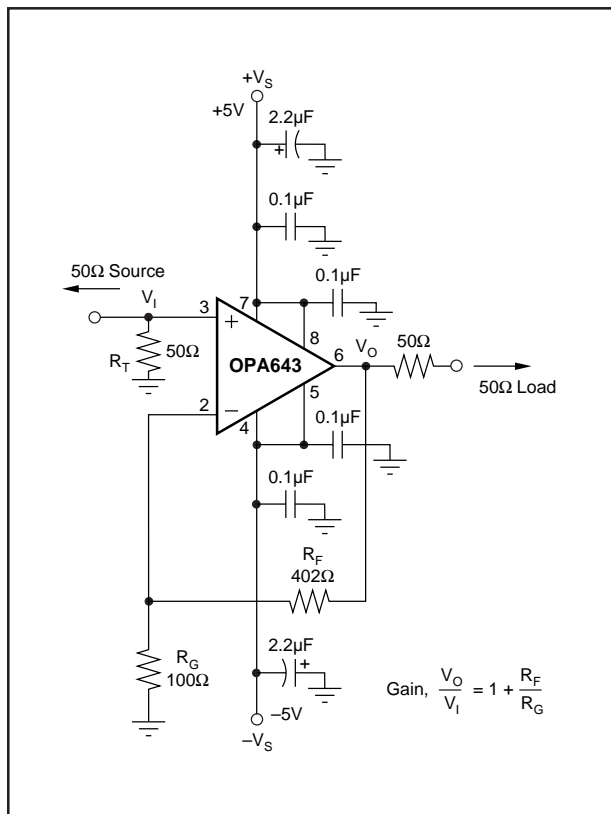

FIGURE 1. Gain of +5, High Frequency Application and Characterization Circuit (P or U Package).
The OPA643's combination of speed and dynamic range is easily achieved in a wide variety of application circuits, providing that simple guidelines common to all high speed amplifiers are observed. For example, good power supply decoupling, as shown in Figure 1, is essential to achieve the lowest possible harmonic distortion and smooth frequency response. Careful PC board layout and component selection will maximize the performance of the OPA643 in all applications, as discussed in the remaining sections of this data sheet.
Figure 1 shows the gain of +5 configuration used as the basis for most of the Typical Performance Curves. Most of the curves were characterized using signal sources with 50Ω driving impedance, and with measurement equipment presenting 50Ω load impedance. In Figure 1, the 50Ω shunt resistor at the  $V_I$  terminal matches the source impedance of the test generator, while the 50Ω series resistor at the  $V_O$  terminal provides a matching resistor for the measurement equipment load. Generally, data sheet specifications refer to the voltage swing at the output pin ( $V_O$  in Figure 1). The total 100Ω load from the series and shunt matching resistors, combined with the 502Ω total feedback network load, presents the OPA643 with an effective output load of approximately 83Ω.
To deliver the lowest possible distortion using the 8-pin SO-8 or DIP package, additional 0.1μF power supply decoupling capacitors on pins 5 and 8 are required. These are shown in Figure 1. Although pins 5 and 8 are internally connected to pins 4 and 7 respectively (the standard supply pins for 8-pin op amps), the additional capacitors help to decouple the package lead inductances and decrease the second-harmonic distortion for a 5MHz fundamental by approximately 4dB. The much shorter bond wires and supply leads of the SOT23-5 package give the best distortion performance while requiring only two power supply connections.
Since the OPA643 is a voltage feedback op amp, a wide range of resistor values may be used for the feedback and gain setting resistors ( $R_F$  and  $R_G$  in Figure 1). The primary limits to these values are set by dynamic range (noise and distortion) and parasitic capacitive considerations. Usually, the feedback resistor value should be between 200Ω and 1kΩ. Below 200Ω, the feedback network will present additional output loading which can degrade the harmonic distortion performance of the OPA643. Above 1kΩ, the typical parasitic capacitance (approximately 0.2pF) across the feedback resistor may cause unintentional band-limiting in the amplifier response.
A good rule of thumb is to target the parallel combination of  $R_F$  and  $R_G$  (Figure 1) to be less than about 200Ω. The combined impedance  $R_F \parallel R_G$  interacts with the inverting input capacitance, placing an additional pole in the feedback network and thus a zero in the forward response. Assuming a 3pF total parasitic on the inverting node, holding  $R_F \parallel R_G < 200\Omega$  will keep this pole above 250MHz. By itself, this constraint implies that the feedback resistor  $R_F$  can increase to several kΩ at high gains. This is acceptable as long as the pole formed by  $R_F$  and any parasitic capacitance appearing in parallel with it is kept out of the frequency range of interest. The exception to this is in wideband transimpedance applications as described earlier. There, a feedback pole is used to compensate for the zero formed by the input capacitance and the feedback resistor.
Generally, until the fundamental signal reaches very high frequencies or powers, the second harmonic will dominate the distortion with negligible third harmonic component. Focusing then on the second harmonic, increasing the load impedance improves distortion directly. Remember that the total load includes the feedback network—in the non-inverting configuration this is sum of  $R_F + R_G$ , while in the inverting configuration it is only  $R_F$  (Figure 1). Larger output voltage swings lead directly to increased harmonic distortion. A 6dB increase in output voltage swing will generally increase the second harmonic by 12dB and the third harmonic by 18dB. Higher signal gain settings will also increase the second harmonic distortion. A 6dB increase in voltage gain will raise the second and third harmonics by
Evaluating these two equations for the OPA643 component values shown in Figure 1 will give a total output spot noise voltage of 13.3nV/√Hz and a total equivalent input spot noise voltage of 2.7nV/√Hz.
Narrowband communications systems are more commonly concerned with the Noise Figure (NF) for the amplifier. The total input referred voltage noise expression (Equation 2 above), may be used to calculate the noise figure. Equation 3 shows the noise figure expression using the  $E_N$  of Equation 2 for the non-inverting configuration where the input termination resistor  $R_T$  has been set to match the 50Ω source impedance (as shown in Figure 1).
Evaluating Equation 3 for the circuit of Figure 1 gives a Noise Figure = 15.9dB. Input transformer coupling can be used to reduce this noise figure. A broadband pulse transformer can provide both a noiseless voltage gain and a more optimum source impedance to minimize the noise figure. Figure 9 shows an example built from the circuit of Figure 1, in which the transformer turns ratio has been set to the closest integer for minimum noise figure. This optimum turns ratio is calculated by:
The OPA643 provides excellent DC signal accuracy due to the combination of high open-loop gain, high common-mode rejection, high power supply rejection, low input offset voltage and low bias current offset errors. The high grade (B) version of any package type provides less than 1.5mV input offset voltage. To take full advantage of this low input offset voltage, careful attention to input bias current cancellation is also required. The high speed input stage for the OPA643 has a relatively high input bias current (19μA typical into each input pin) but with a very close match between the two input currents—typically 100nA input offset current. The total output offset voltage may be considerably reduced by matching the source resistances which appear at the two inputs. For example, one way to include bias current cancellation in the circuit of Figure 1 would be to insert a 55Ω series resistor into the non-inverting input after the 50Ω terminating resistor,  $R_T$ . When the 50Ω source resistor is DC coupled, this will increase the source resistance for the non-inverting input bias current to 80Ω. Since this is now equal to the resistance appearing at inverting input ( $R_F \parallel R_G$ ), the circuit will cancel the gains for the bias currents to the output, leaving only the offset current times the feedback resistor as a residual DC error term at the output. Using a 402Ω feedback resistor, this output error will now be less than  $3\mu A \cdot 402\Omega = 1.2mV$  over the full temperature range.
As a worst case example, compute the maximum  $T_J$  using an OPA643N (SOT23-5 package) in the circuit of Figure 1 operating at the maximum specified ambient temperature of  $+85^\circ\text{C}$ .  $P_D = 10\text{V} \cdot 26\text{mA} + 5^2 / (4 \cdot (100\Omega \parallel 502\Omega)) = 335\text{mW}$ . Maximum  $T_J = +85^\circ\text{C} + (0.335\text{W} \cdot 150^\circ\text{C/W}) = 135^\circ\text{C}$ .